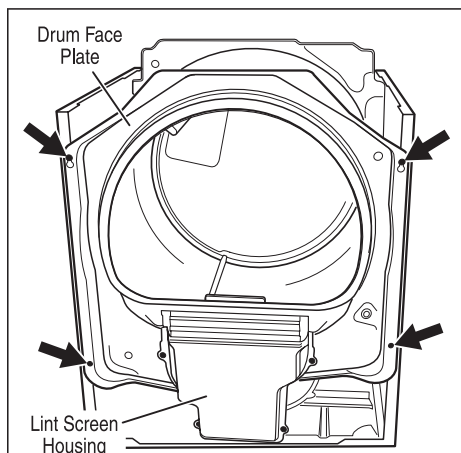

Figure 14. Remove the front bulkhead.
9. Remove the lint screen housing by removing the four screws holding the lint screen housing. See figure 14.
10. Remove the front bulkhead by loosening the upper two screws and removing the lower two screws. See figure 14.